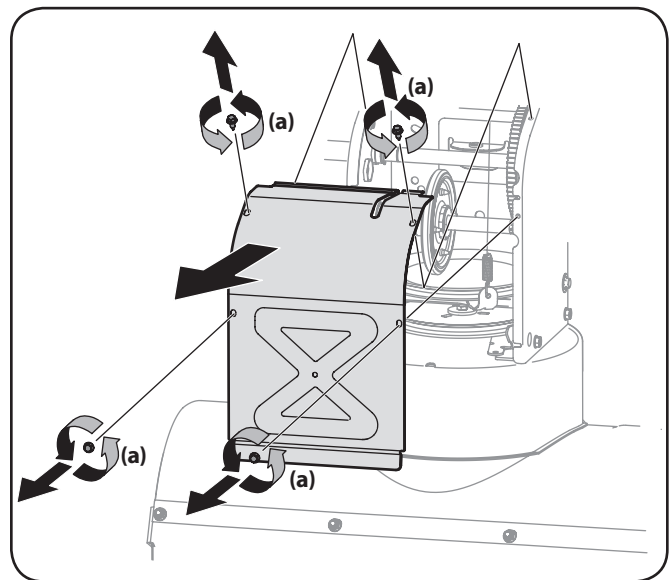

Figure 6-5
3. Remove the frame cover from the underside of the snow thrower by removing the self-tapping screws (a) which secure it. Refer to Figure 6-5.